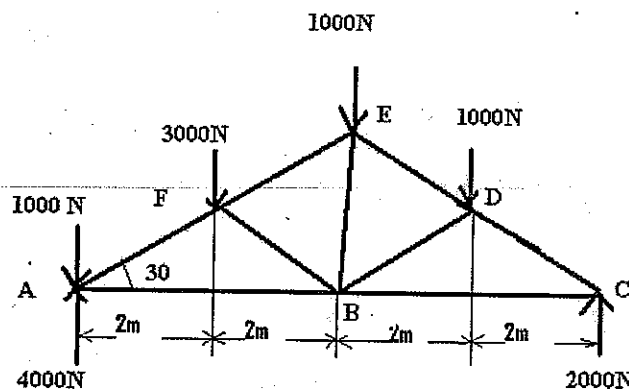

Figure: 2
5. Determine the force in member EB of the roof truss shown in the figure 2 below. Indicate whether the member is in tension or compression. [15]